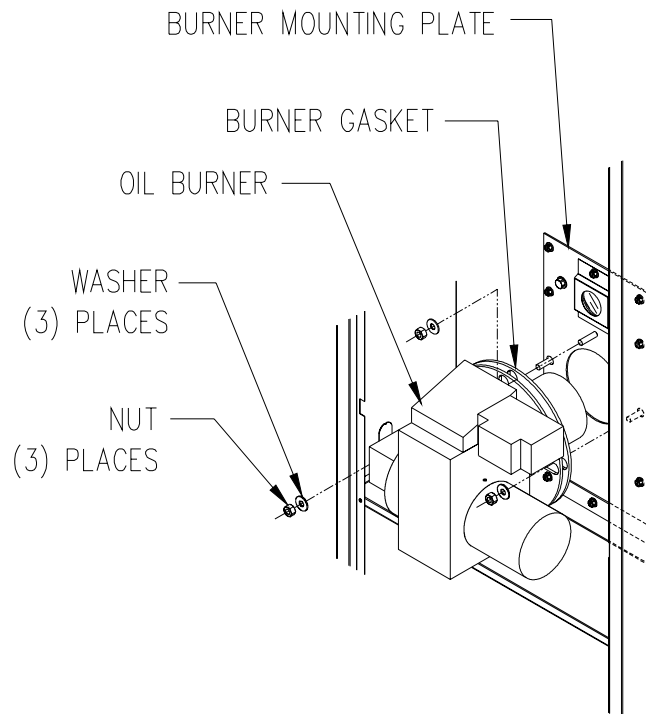

Figure 2: Installing and Securing the Oil Burner to the Furnace Mounting Plate
- 7) Reusing the fasteners removed in step (4) [three (3), 5/16 in. brass hex nuts and three (3) steel flat washers], install and secure the burner to the mounting studs protruding through the burner mounting plate, refer to Figure 2. (For counterflow / horizontal units, refer to the section of the furnace instruction manual entitled "Horizontal / Counterflow Furnace Setup")